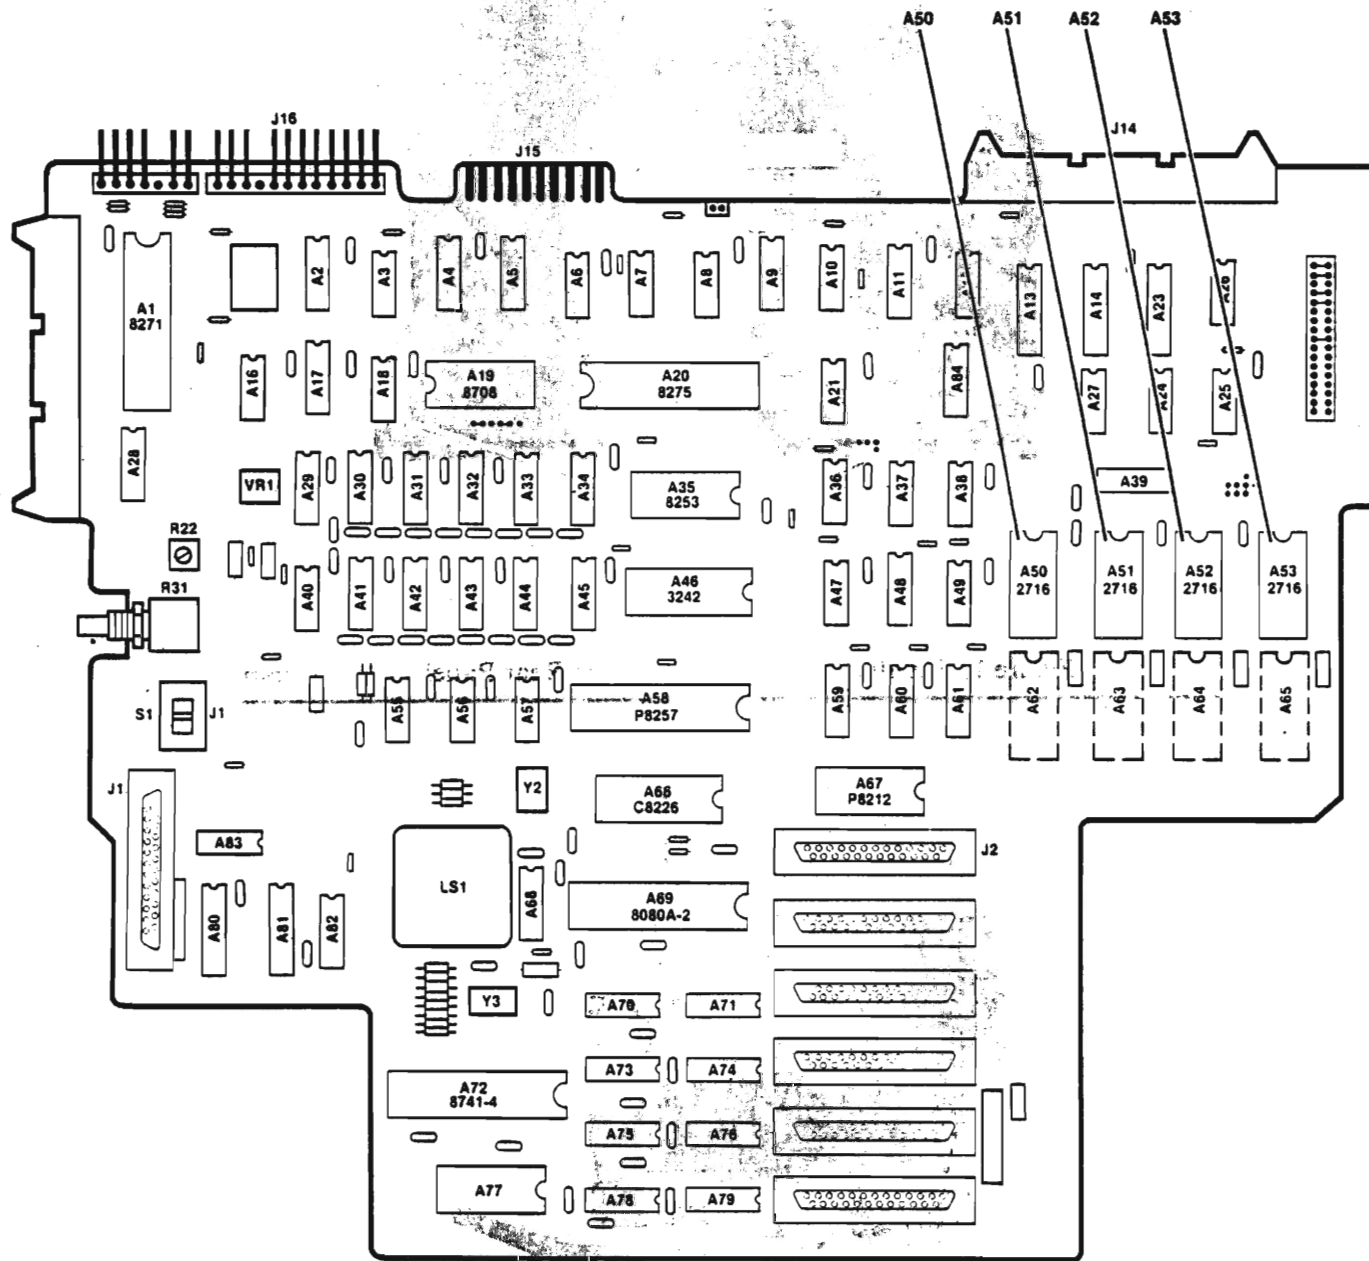

Figure 3. IOC Board Component Location Diagram
7. Refer to figure 3 and remove the the four PROM chips from locations A50, A51, A52, and A53.